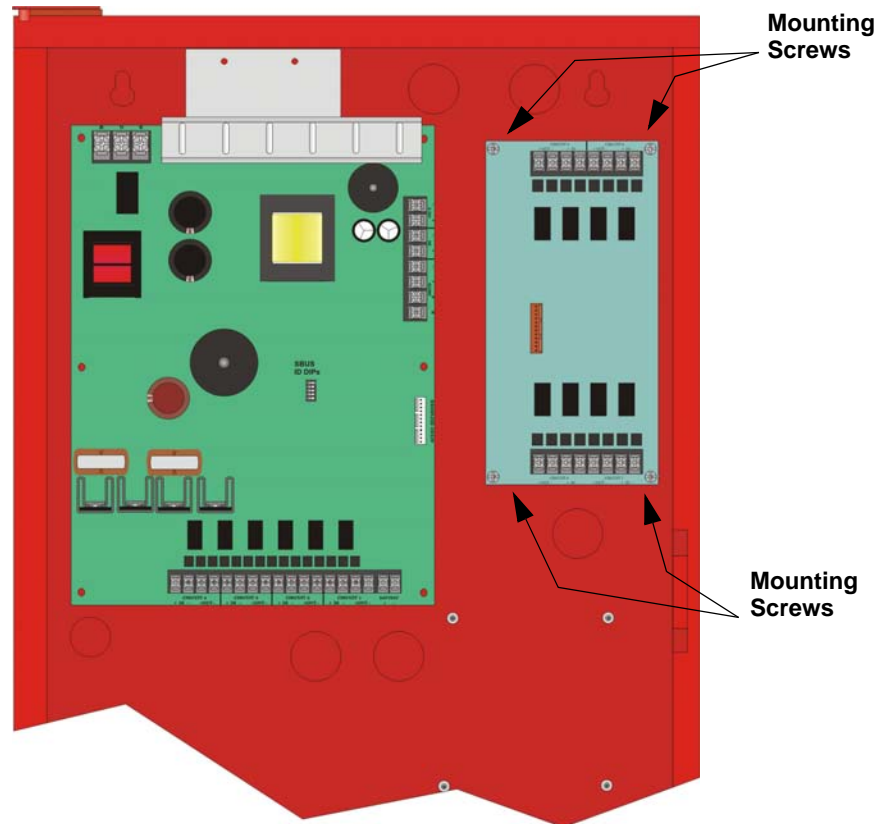

Figure 3-36 Mounting the VIP-CE4
1. Using the four supplied screws mount the VIP-CE4 in the VIP-50/VIP-125 cabinet as shown in Figure 3-36.